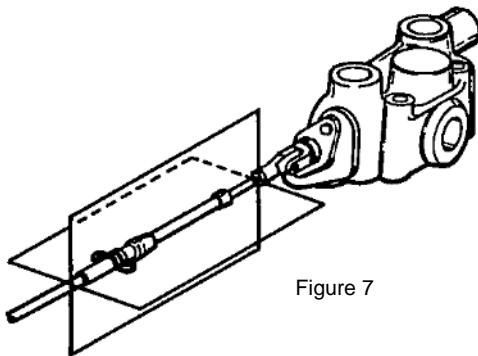

Figure 7
- a. Where cable ends are to be connected to objects requiring linear movement only, (such as valve spools, etc.), maximum life and efficiency can be achieved by accurately aligning in both planes, the cable hubs with the objects to be controlled. See Figure 7.